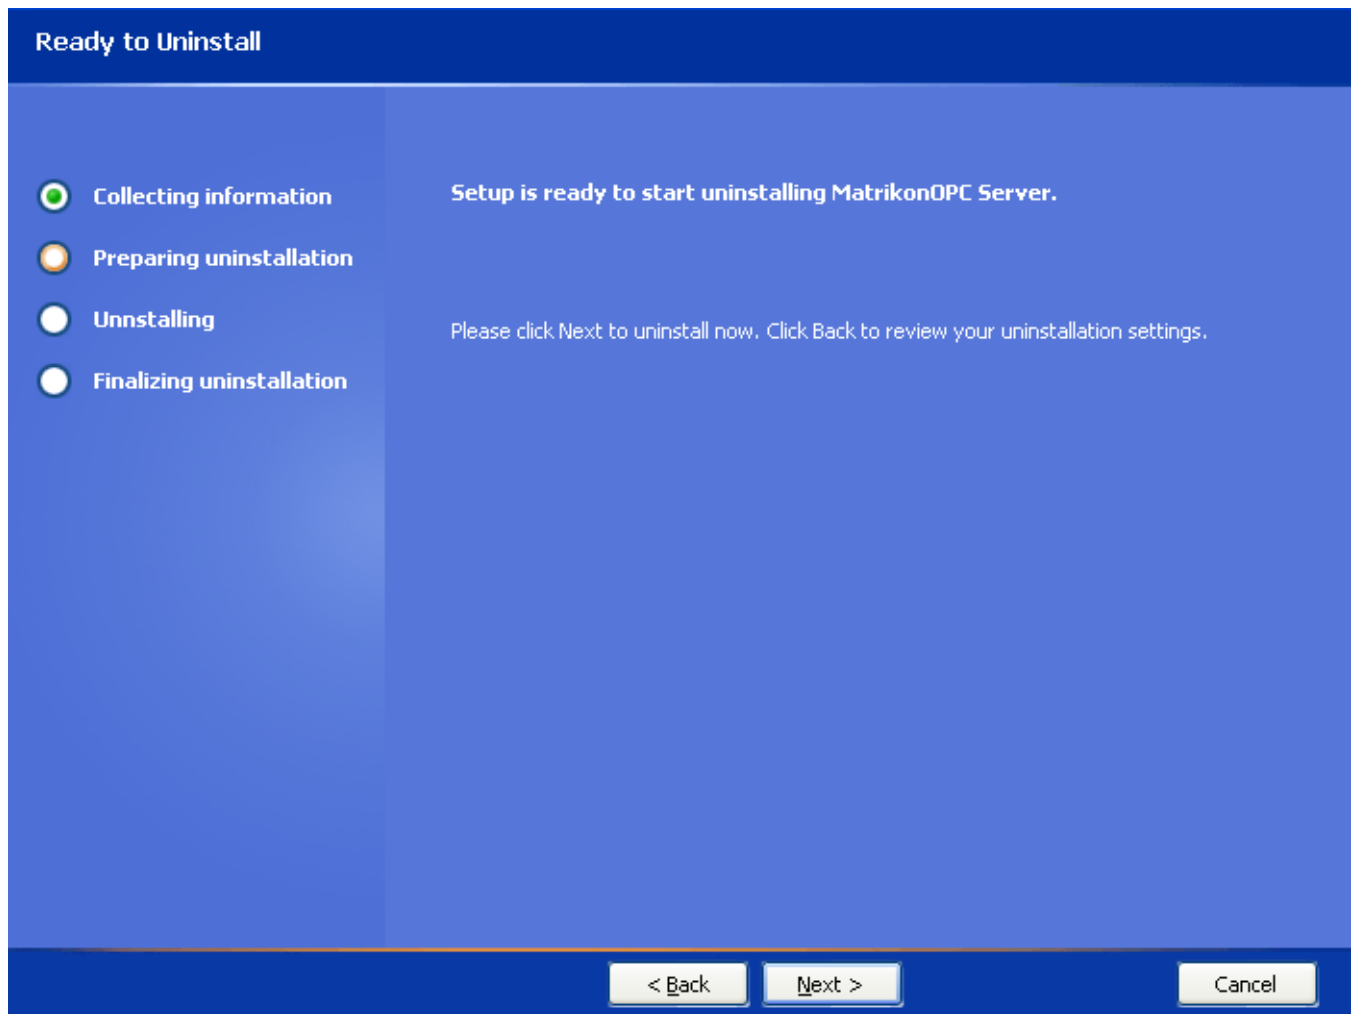

Figure 79 - Ready to Uninstall Screen
8. Click on the **Next** button. The **Ready to Uninstall** screen (Figure 79) is displayed.